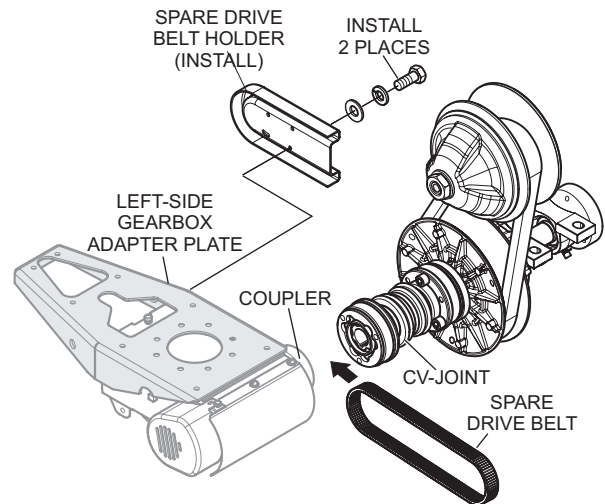

Figure 24. Spare Drive Belt Routing
5. Mount the new spare drive belt and cover (Figure 24) onto the left-side gearbox. Reinstall the 2 bolts that secure the spare belt holder to the left-side gearbox adapter plate.